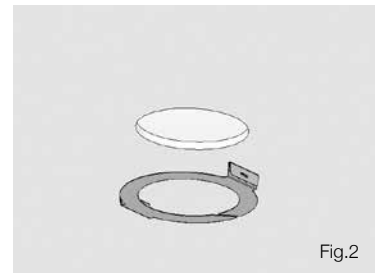

Fig.2
2. Cut out the hole in the ceiling tile using a pad saw. (Fig.2)
2. Cut out the hole in the ceiling using a pad saw, then slide the C-Ring into the ceiling, aligning it over the cut-out hole. (Fig.2)
3. Cut out the hole in the ceiling using a pad saw. (Fig.2)
2. For connection to an amplifier, use Pins 1 and 2 (Fig.2):